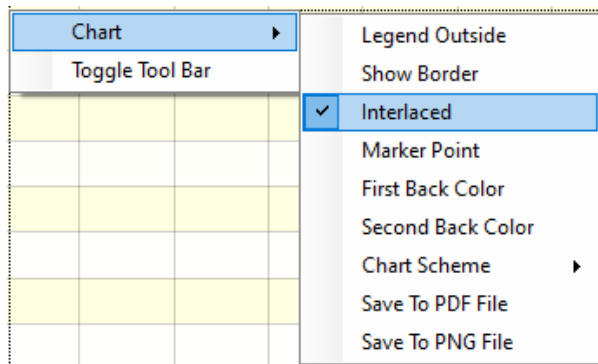

Figure 4-28: Chromatogram context menu Chart Commands
- *Chart* contextual menu (Figure 4-28).